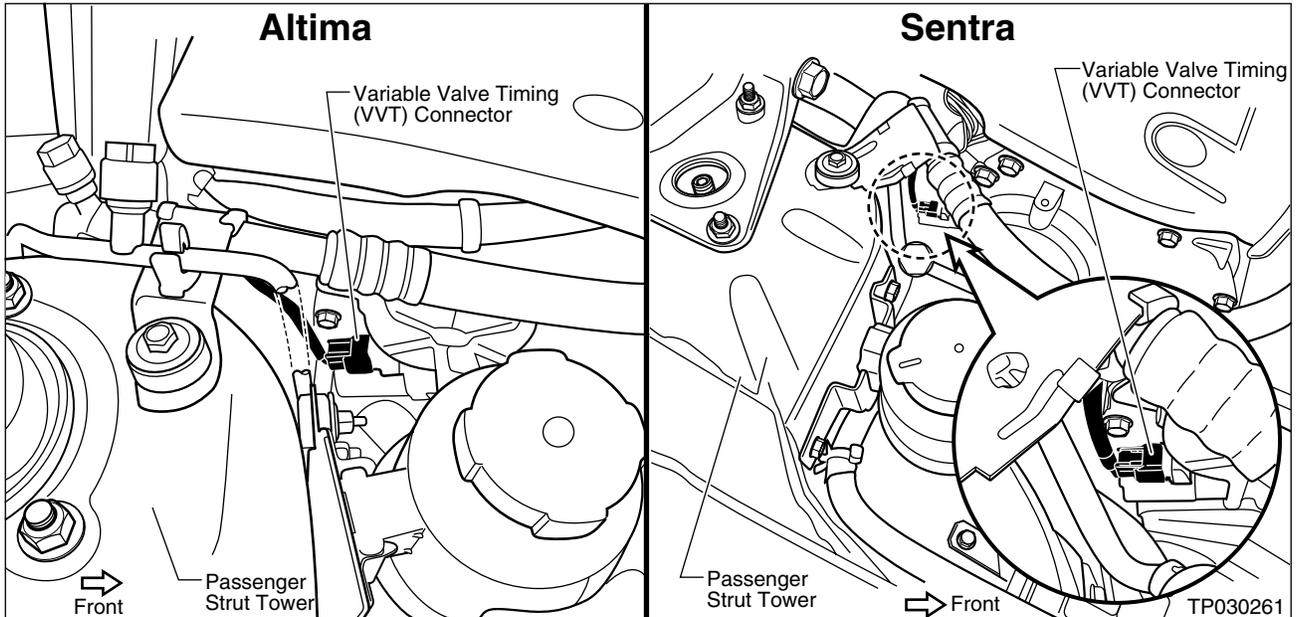

Figure H1
- Make sure the VVT Wire Harness Connector is disconnected before removing the engine (see Figure H1).